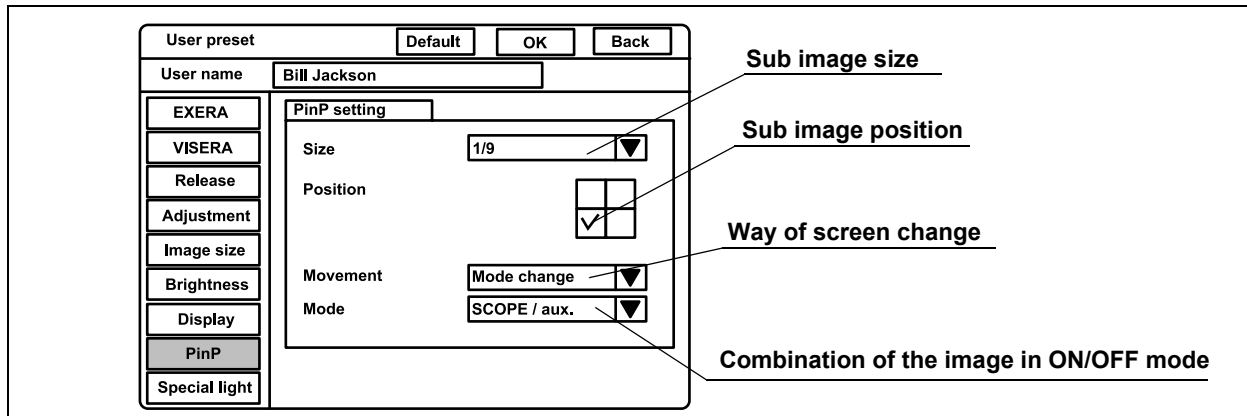
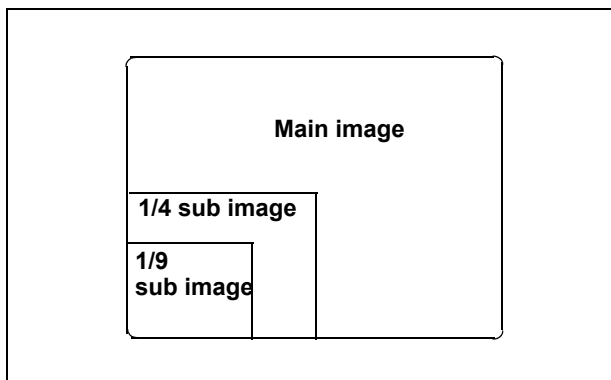

Figure 9.41
Figure 9.42
Click “PinP” on the system setup menu. The setting items appear on the right side of the window (see Figure 9.41).
1. Click “▼” of “Size” (see Figure 9.41). The PinP sub image sizes appear in the pull-down menu (see Figure 9.42).
1. Click “ ▼ ” of “Movement” (see Figure 9.41). The PinP modes appear in the pull-down menu.
3. Click “ ▼ ” of “Mode” if “ON/OFF” of “Movement” is selected (see Figure 9.41). The display modes appear in the pull-down menu.